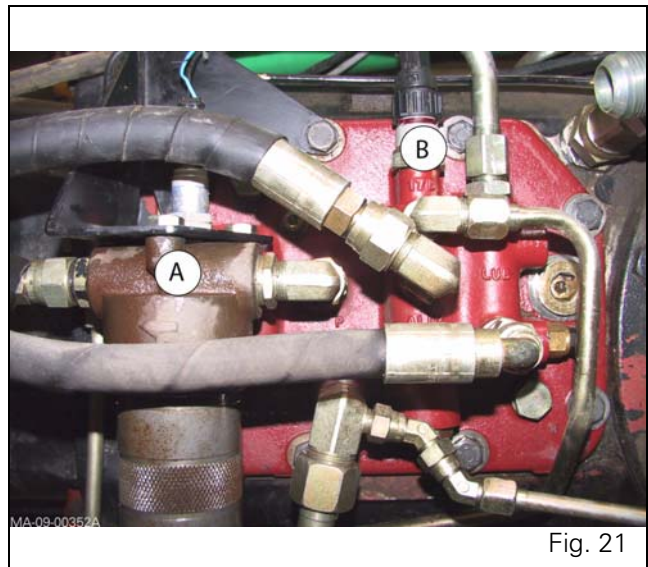

Fig. 21
16. Connect the hydraulic unions according to the markings made at disassembly (Fig. 21).